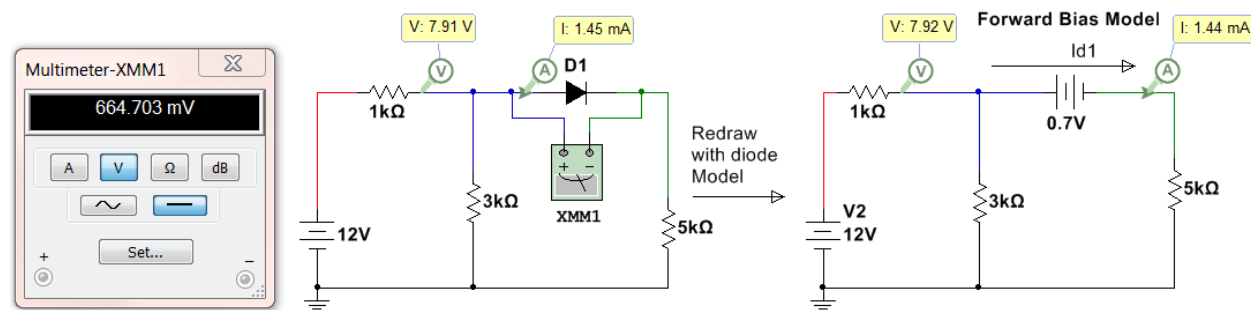

Figure 6.6: Circuit for Example 6.3
Step 2) The circuit on the right side of Figure 6.6 shows the forward bias model replacing the diode. **The node where the anode was connected is connected to the + side of the battery.** 0.7 V is used for the battery voltage because the problem stated it is a silicone diode. Next, calculate the current, I_{D1} . The mesh matrix method used in the DC Circuits eBook will be used.
- Solving this matrix yields $I2 = I_{D1} = \underline{1.44 \text{ mA}}$ (This is verified in Multisim in the right circuit of Figure 6.6)
- **Note:** The actual diode voltage is shown in Multimeter XMM1 to be 664.703 mV. The 0.7 V diode drop assumption yielded a slightly different result than the actual values (shown in the left circuit in Figure 6.6).